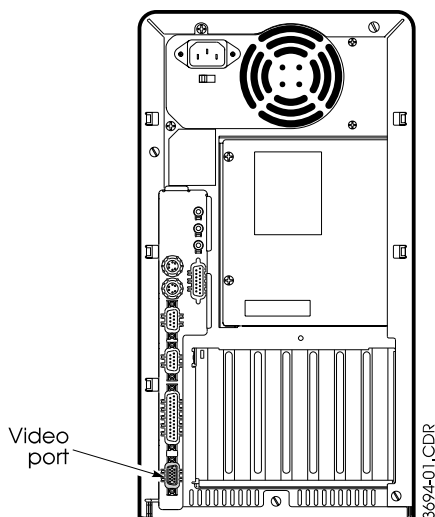

Figure 1. Video Port Location
2. Connect the monitor interface cable to the video port on the back of the computer (Figure 1), or to the add-in video connector if you have installed a video adapter.